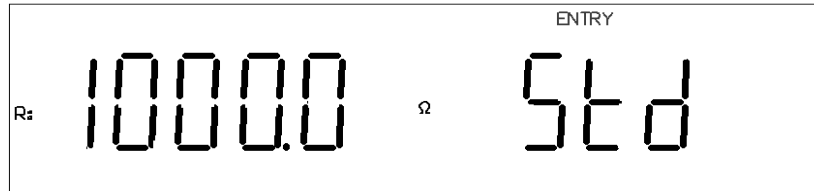

Figure 3-6 Nominal value setup
10. Press [▶] key, until "STD" is flashing in the second parameter display area, and the current nominal value will be displayed in the primary parameter display area as shown in figure 3-6.